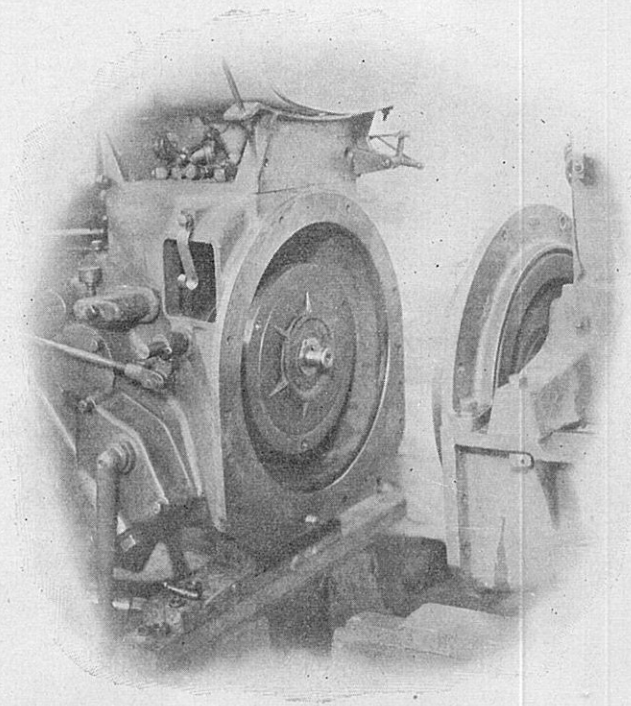

Fig. 54A
1. The method of removing the clutch is to remove hood, disconnect fuel pipe, control rods, steering knuckle and reach rods, then block up rear and front section of tractor and remove bolts holding same together. Now move rear section of tractor backward far enough to permit removal of clutch. See Fig. 54A.